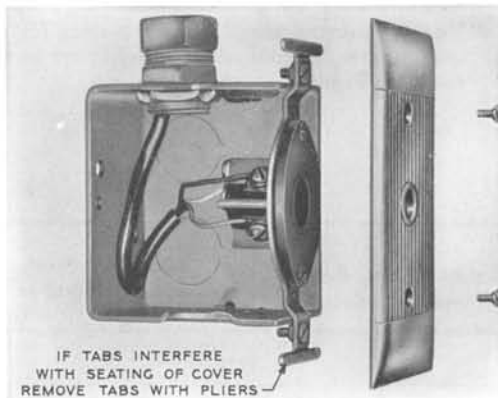

FIG. 2—47B CONNECTING BLOCK ON 43A BRACKET MOUNTED IN OUTLET BOX
5.01 The 47B connecting blocks may be flush-mounted in outlet boxes or fittings of under-floor duct systems. They may also be mounted in baseboards and wall panels. Figs. 2 through 5 show these mounting arrangements.
5.02 In outlet box, mount connecting block as shown in Fig. 2.